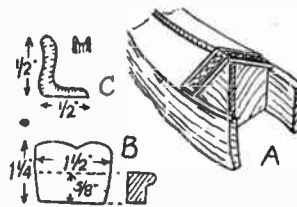

Fig. 3—Shape at the prow
At this particular part a decorative strip, or rather two separate strips, is glued, as in detail (A) Fig. 3. These strips are cut $\frac{3}{8}$ in. wide, from the $\frac{1}{8}$ in. fretwood, and glued in place, being mitred together neatly where they meet at the centre. A little carving is done to these with a file or penknife, as in the diagram, nothing elaborate need be attempted, just